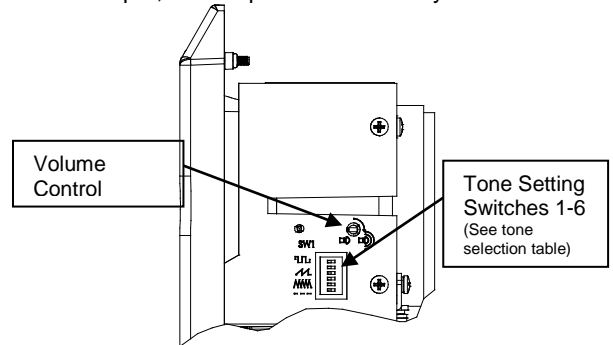

Fig. 2 Location of field controls
- Select the required output tone by positioning the six switches as shown in Table 1 and Fig 2.
The output level of the D2xS1 alarm horn can be set by adjusting the volume control potentiometer (see Fig 2). For maximum output, set the potentiometer fully clockwise.
The D2xS1 alarm horns have 64 different tones. The tones are selected by operation of the tone setting DIP switches (see Fig. 2) on the PCB. The alarm horns can also be switched to sound the second, third and fourth stage alarm tones. The tone table (Table 1) shows the switch positions for the 64 tone and which tones are available for the second, third and fourth stages.
Tone Selection – To select the required first stage tone set the tone switches 1 to 6 (see Fig 2) to the tone setting shown in the table below. The table also shows which 2nd, 3rd and 4th stage tones are available for use with the selected first stage tone if more than one tone output stage is required.